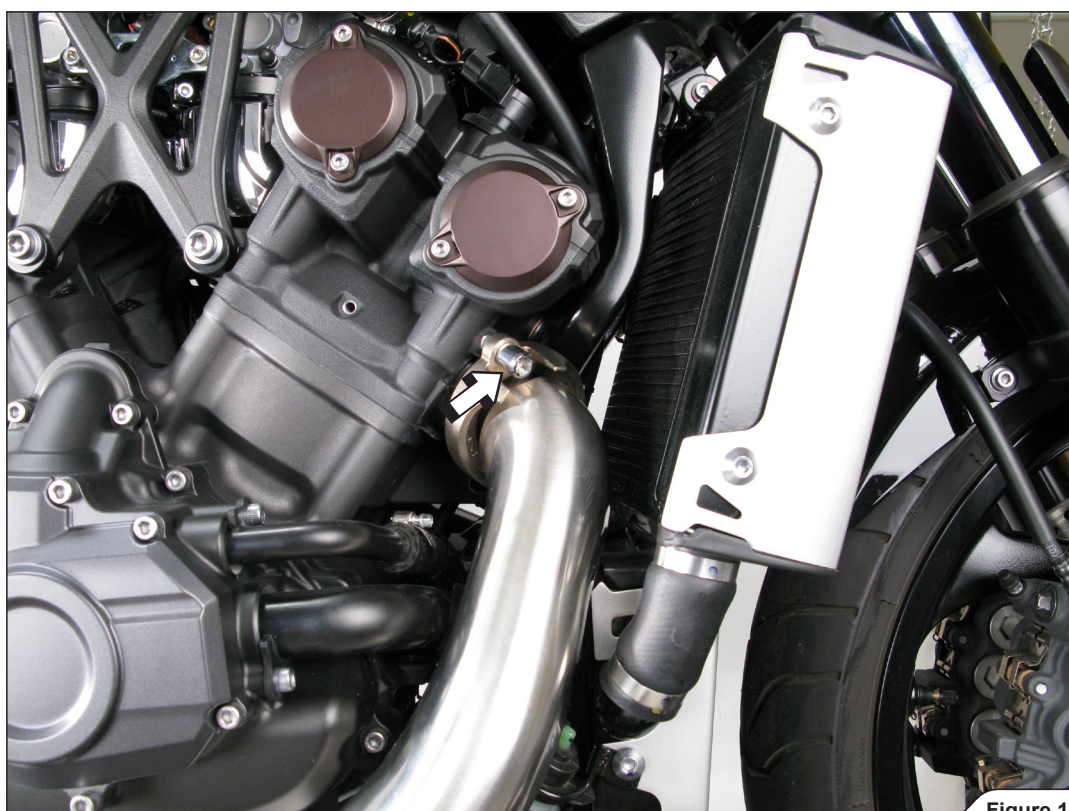

Figure 18
16. For OPEN SLIP-ON only: loosen up the nuts of the front header tubes (Figure 18).